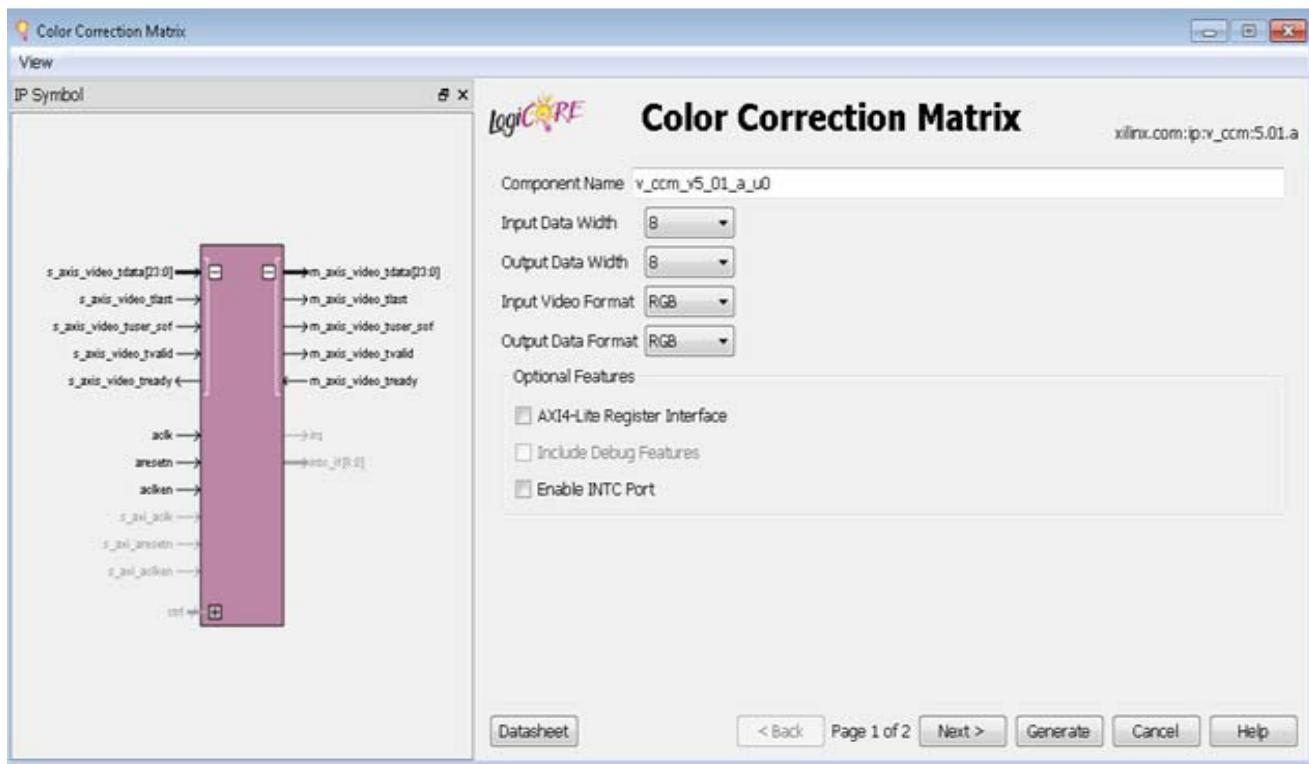
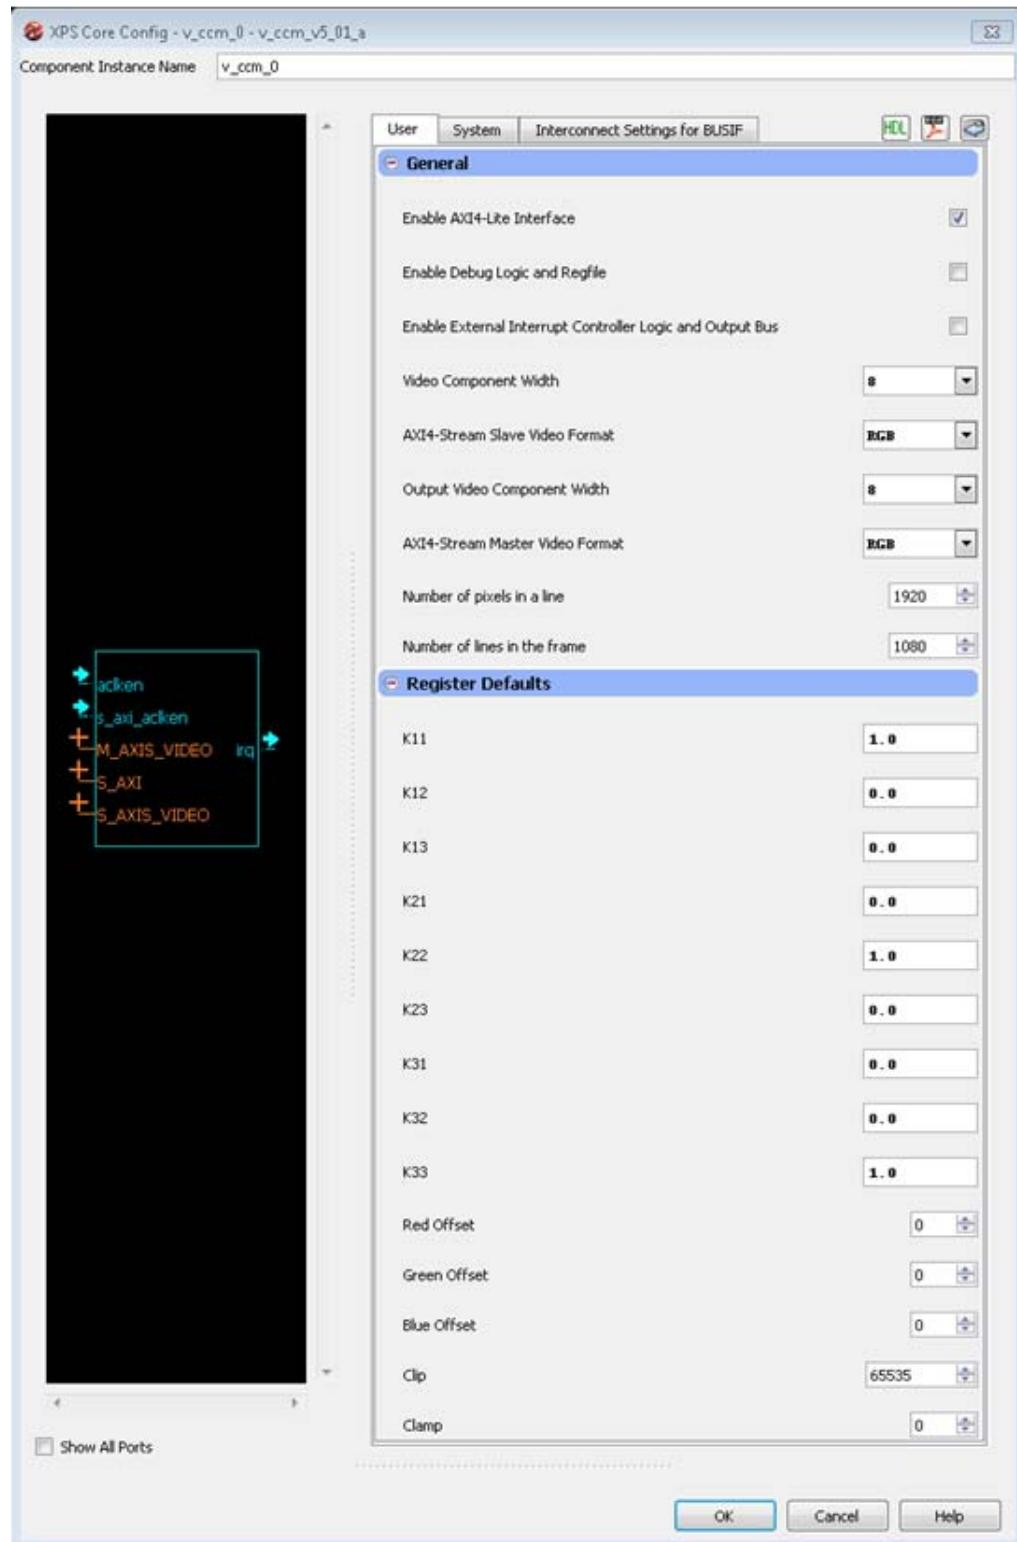

Figure 8-1: Screen 1
Figure 8-3: EDK Graphical User Interface
The first screen (Figure 8-1 for CORE Generator and Figure 8-3 for EDK) shows a representation of the IP symbol on the left side, and the parameters on the right, which are described as follows:
- **Offsets:** Enter the offset coefficients (O in Equation 1-1). These signed coefficients have the same bit width as the output. Enter the offset values (O in Equation 1-1). These signed integer values must be in the range $[-2^{\text{Out_Data_Width}}, 2^{\text{Out_Data_Width}} - 1]$, and are 1-bit wider than the Output Data Width specified on the first page of the GUI, as shown in Figure 8-3.